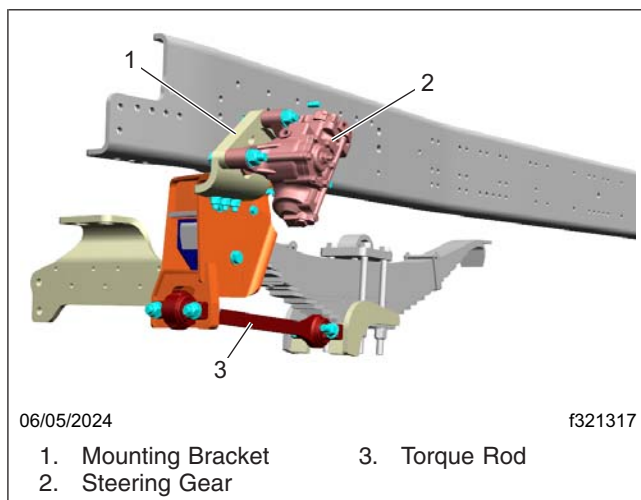

Fig. 1, Location of the Torque Rod and Steering Gear
1. Remove the torque rod from the front suspension hanger. See Fig. 1.
2. Remove the steering gear and mounting bracket from the frame rail. See Fig. 1.